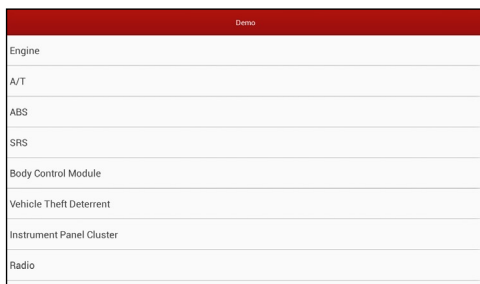

Fig. 5-16
4. Tap “Demo” to enter system selection interface. See Fig. 5-16.